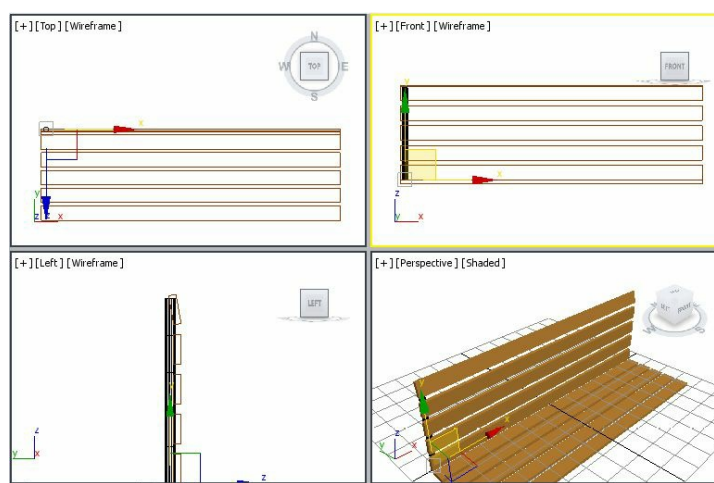

Figure 2-72 The vertical back support001 geometry in viewports
3. Now, choose the **Create** button in the **Keyboard Entry** rollout; a cylinder is created in all viewports, as shown in Figure 2-72.